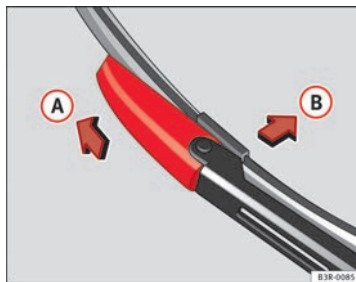

Fig. 170 Removing the wiper blade
- Slide the retainer catch on the wiper blade in the direction indicated → fig. 170 **A**. Hold onto the wiper blade at the same time.